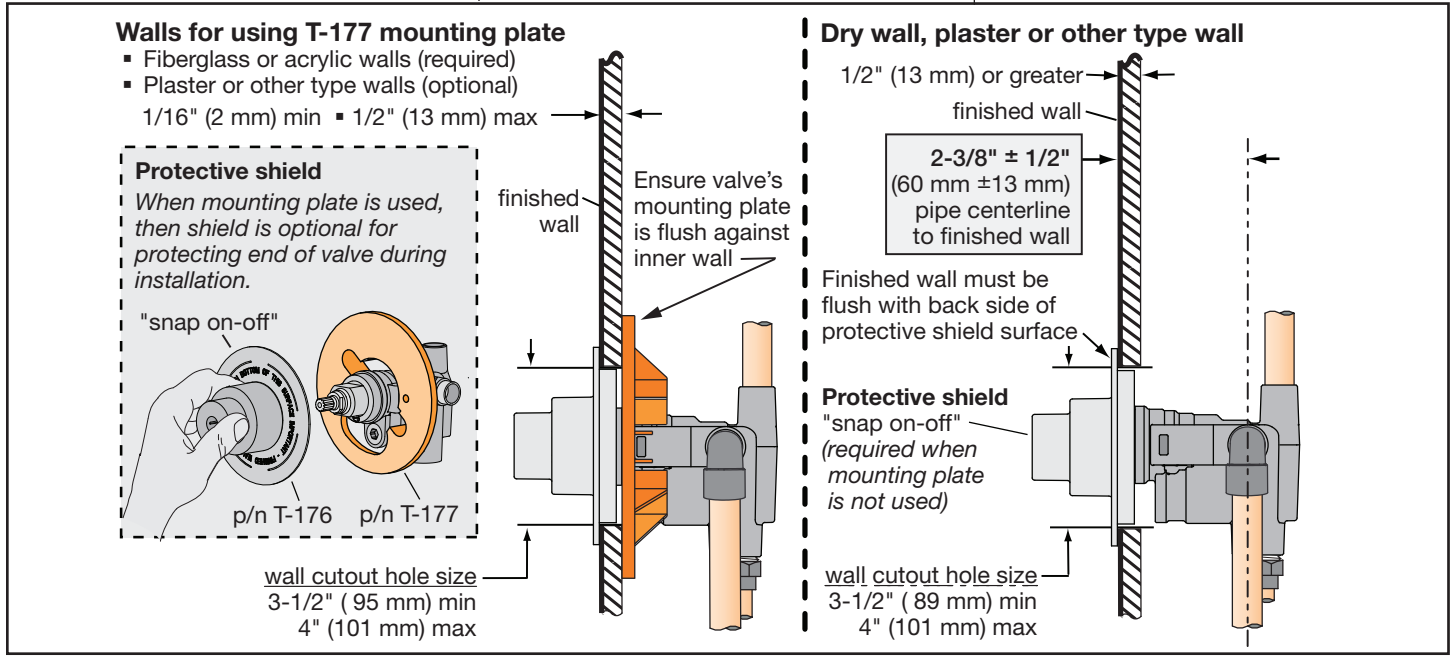

Figure 2 *Mounting valve*
- Consider whether to use mounting plate by reviewing figure 2 below.
Install valve through cutout hole in wall as specified in figure 2 below and dimension illustration on page 2.